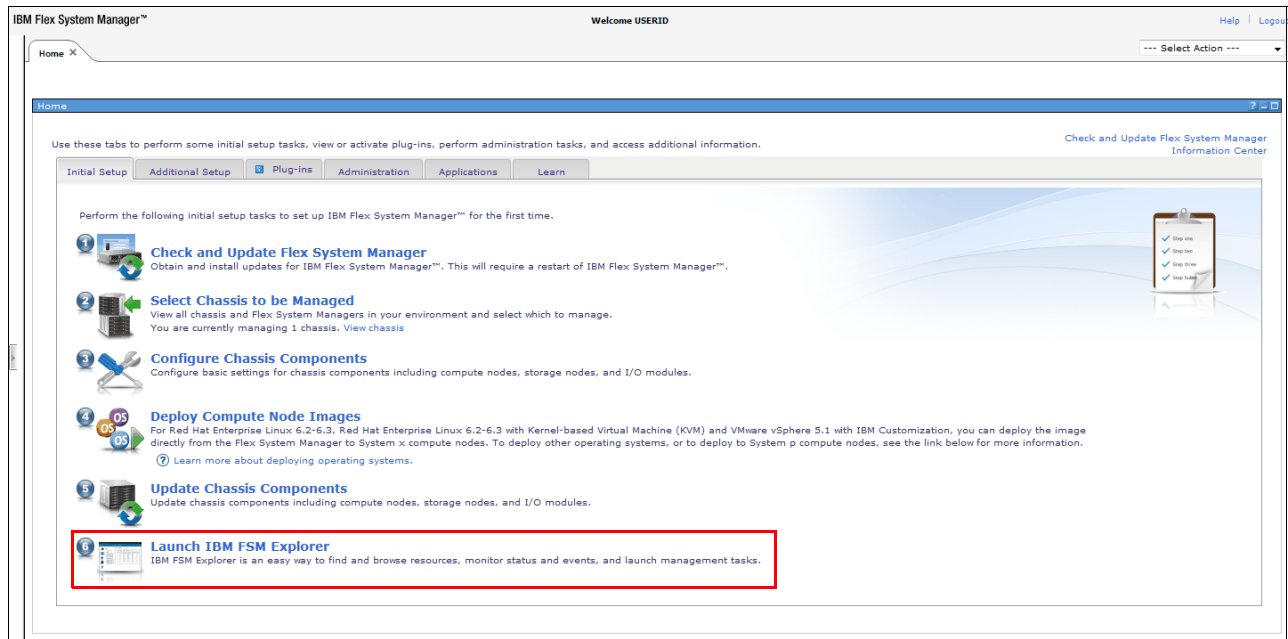

Figure 4-1 Select and launch the chassis in the Chassis Manage
1. Open a web browser and point it to the IP address of the FSM and login. The following menu screen (Figure 4-1) appears giving you a number of selections.